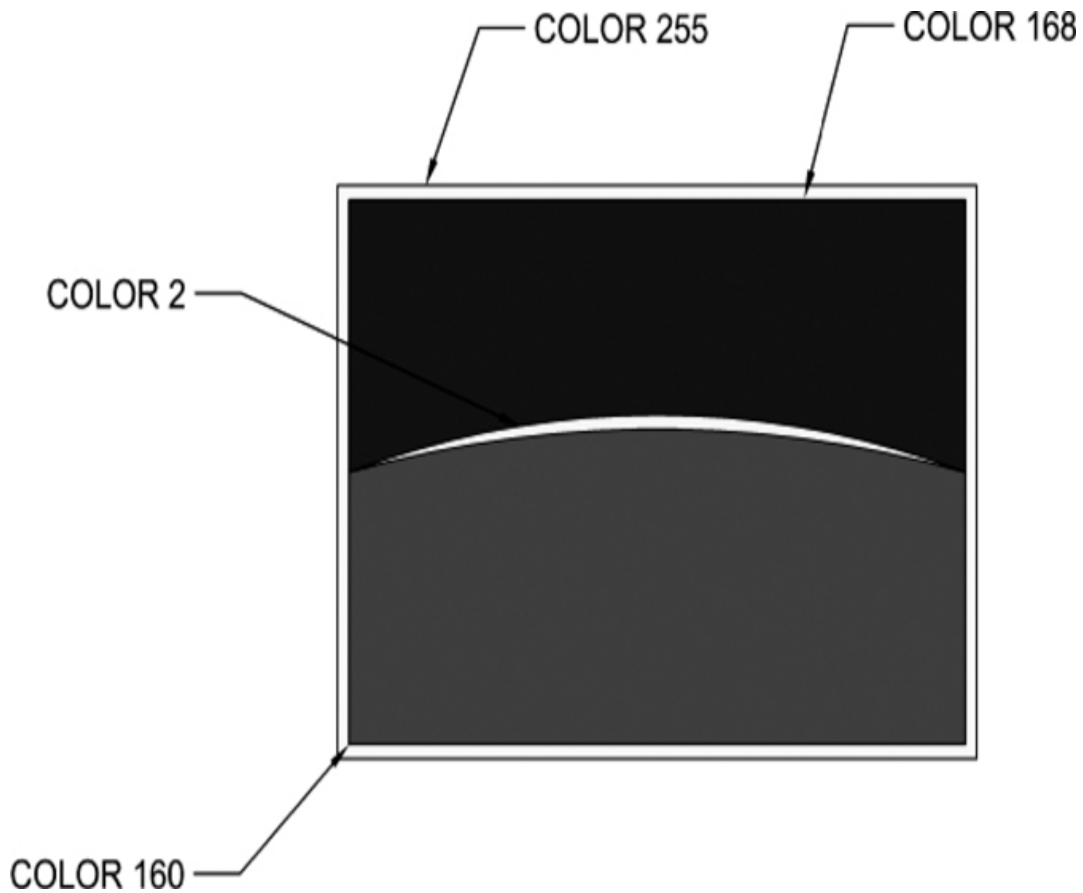

Figure 10-30
2. Create the solid fill areas shown in Figure 10-30.